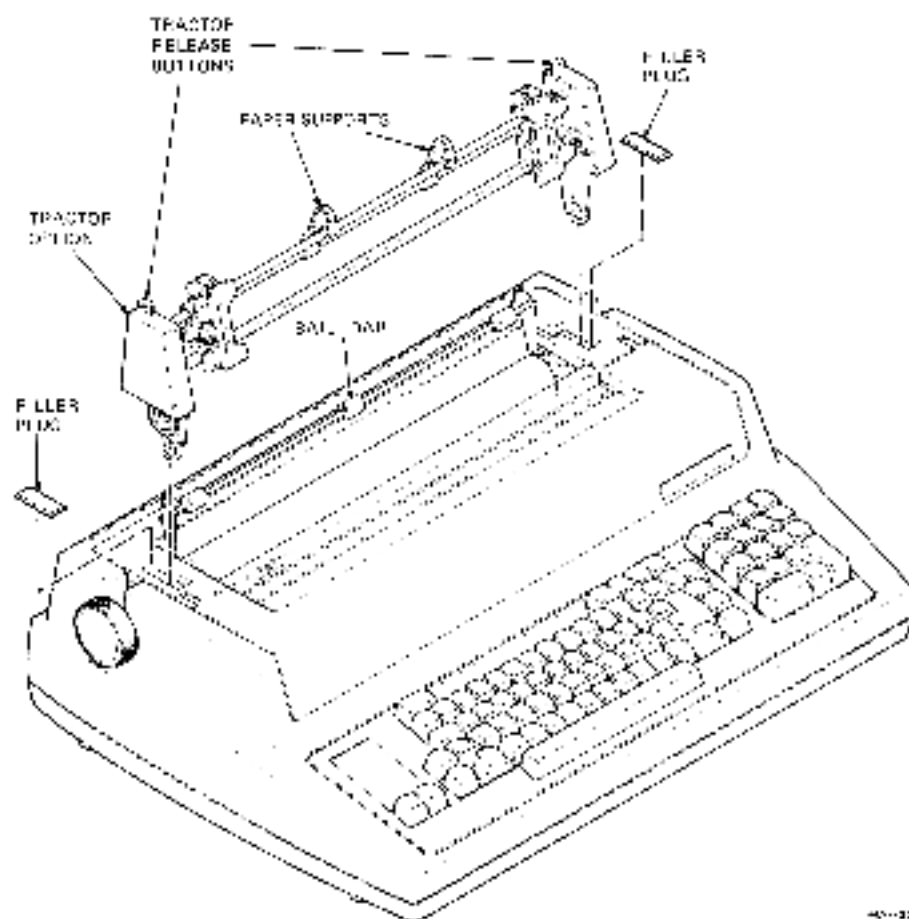

Figure 3-11 Tractor Option Installation
2. Remove the access cover by opening it and pressing the two access cover retainer clips at the same time. Lift the cover straight up (Figure 3-11).
3. Locate and remove (pop out) filler plugs from the access cover (Figure 3-11). This allows the tractor option to be attached to the platen drive gear.
5. Lift the bail bar (Figure 3-11).
6. Press the left and right tractor release levers and position the tractor option into place on the platen assembly (Figure 3-11). Release the tractor release levers after the tractor assembly snaps into place.